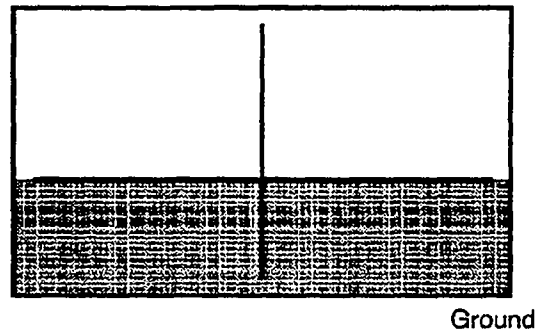

Figure 9 Shaded area = illumination area of fog lamps
2. Turn fog lamp vertical adjustment screw (8) so that the fog lamps illuminate the test screen as shown in Figure 9.